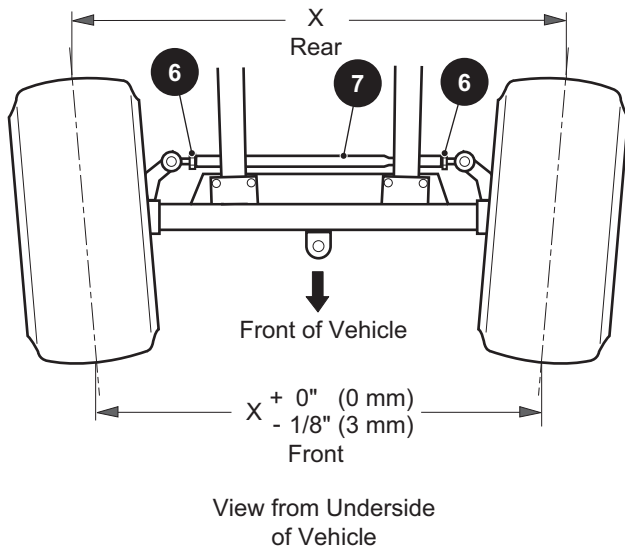

Figure 3 Wheel Alignment
5. Measure the distance between the chalk lines at both the front and the rear of the tires (Ref. Figure 3).